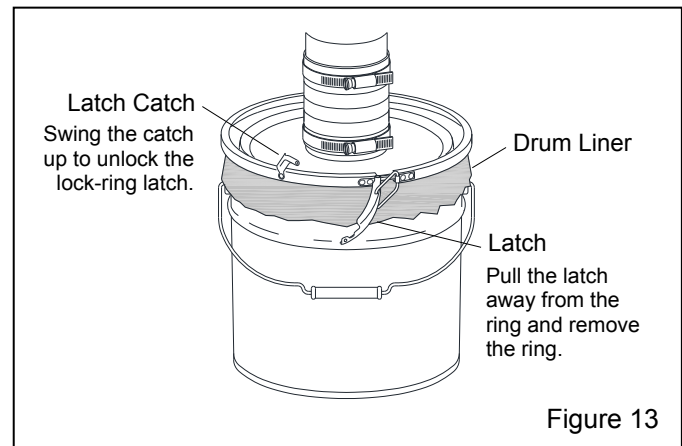

Figure 13
**5.1.5.2** Turn off the exhauster and release the lid lock ring from the dust container, as shown in Figure 13.